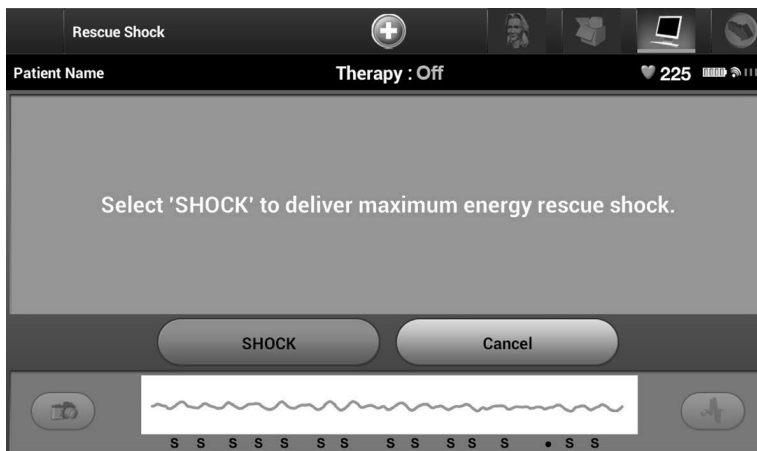

Figure 55: *Rescue Shock screen*
1. Select the red Rescue Shock Icon at the top of the programmer screen. The Rescue Shock screen appears (Figure 55).